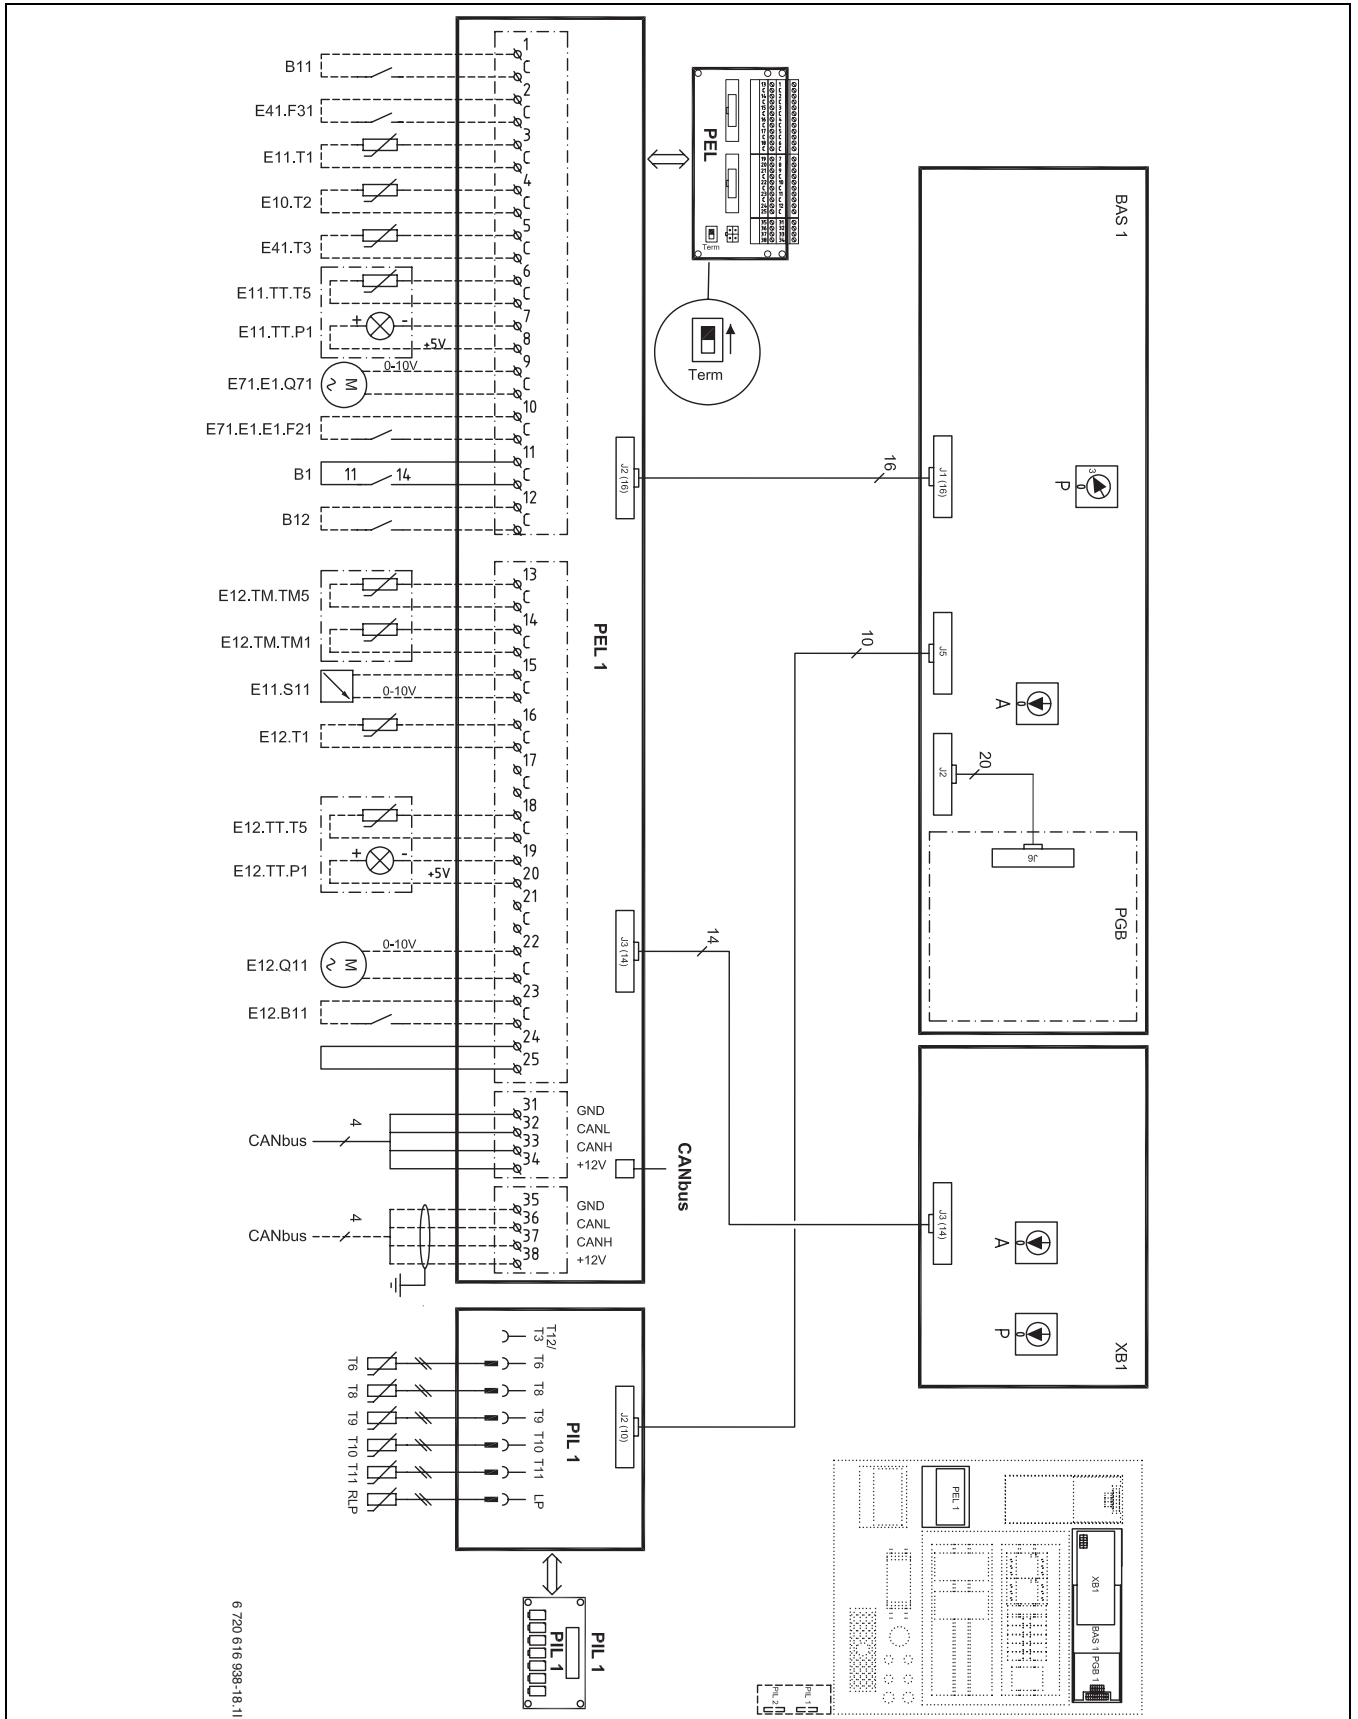

Fig. 33 Wiring diagram E21, low current
► Use an intermediate relay on connection of additional heat alarm E71.E1.E1.F21 to the low-voltage board (→ Figure 33) when the alarm signal of the additional heat is 230V.